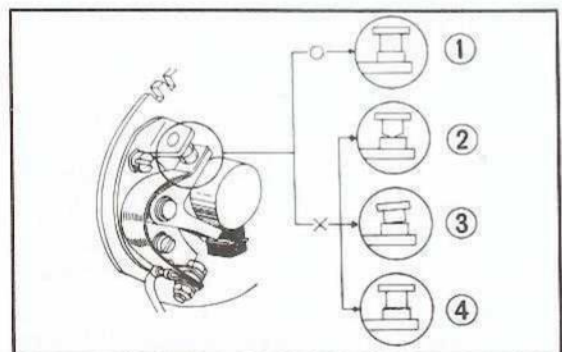

Fig. 7-17 ① Correct
- a. Dress the pitted or dirty point with either a point file or emery paper, however, if the condition is relatively severe, remove the contact breaker arm and dress the points on both the arm and the stationary point with an oil stone, making sure that the points will have parallel contact when assembled. The point gap should be adjusted to $0.012 \sim 0.016$ in ($0.3 \sim 0.4$ mm). (Fig. 7-17)